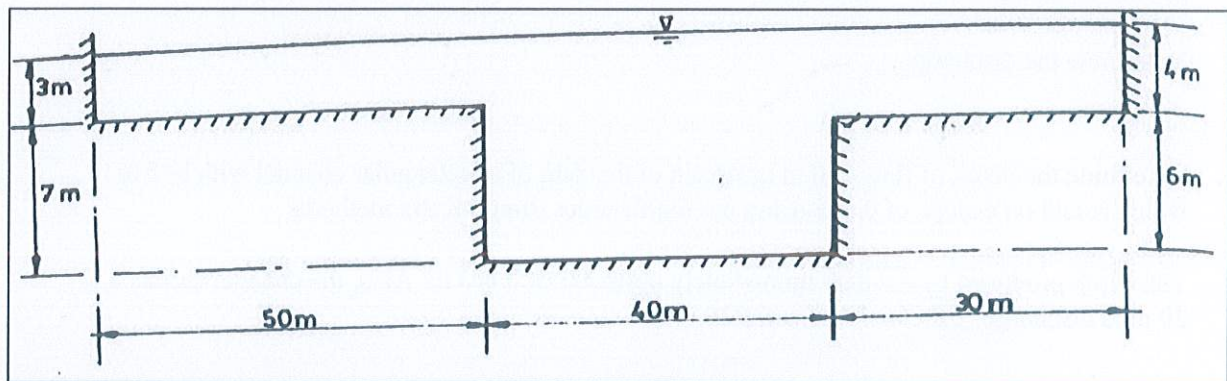

Figure: 1
6. (a) An earthen canal is to be laid on a slope of 1 in 2500. The side slope of the channel is to be maintained at 1:1 and the lining is expected to give, $n = 0.025$. Design the channel section from the practical point of view if $Q = 120\text{ m}^3/\text{s}$, velocity is kept 2 m/s . Draw a schematic diagram of the channel. (8)
- (b) From an engineering point of view, it is necessary to reduce the seepage and percolation loss of the earthen canal. What necessary steps you will take to make the channel more cost efficient and allow more discharge? (7)
7. Prove that, best hydraulic trapezoidal section is one half of a regular hexagon (10)
8. A channel ($S_0 = 0.0002$) consists of a main section and two side sections as shown in figure 1. Compute the total discharge and mean velocity of flow. Manning's coefficient for side channels are 0.045 and main channel is 0.025 . (10)